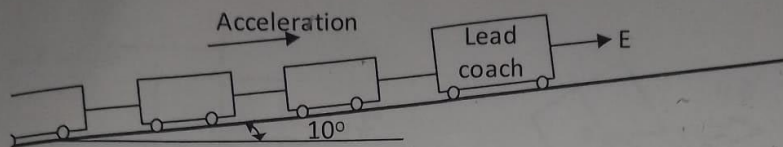

Figure Q6: Part of a train on an inclined track
A 75t locomotive pulls a train of eight (8) 32t coaches up an incline of 10° as shown in Figure Q6. The tractive effort, E , at 72 km/h is 650 kN and the track resistance is 60N/t of total mass.